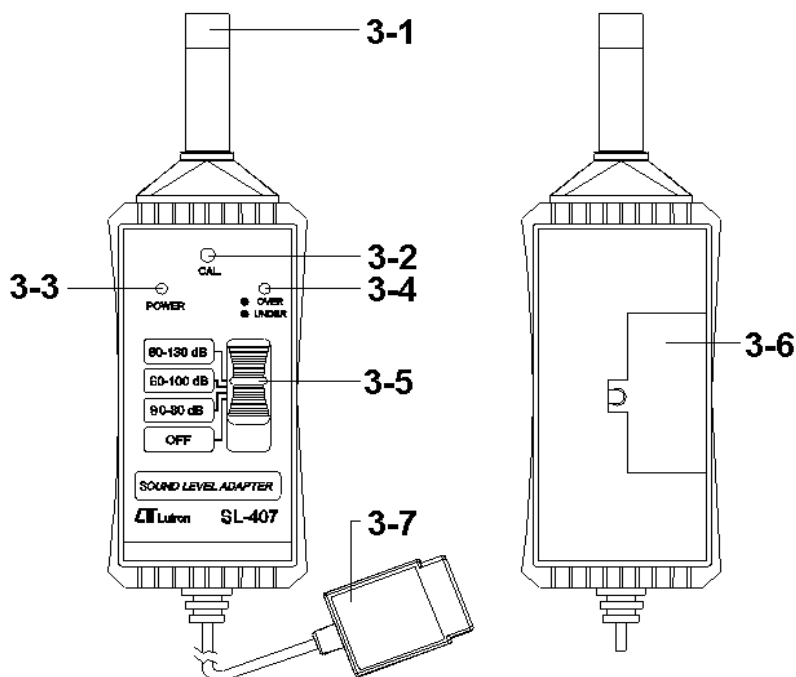

Fig. 1
- 1) Connect the " Output Plug " ( 3-7, Fig. 1 ) to the input terminals of ENVIRONMENT METER ( EM-9300SD )
When the " Over/Under range indicator " ( 3-4, Fig. 1 ) show the red color, it shows the over range, Slide the " Range switch " to other higher range for measuring.
When the " Over/Under range indicator " ( 3-4, Fig. 1 ) show the green color, it shows the under range, slide the " Range switch " to other lower range for measuring.
- 1) Power on, the " Power indicator " ( 3-3, Fig. 1 ) will be lit.
- 2) Open the " Battery Cover " ( 3-6, Fig 1 ), and remove the battery.
The sound level adapter is built in the internal " Calibration VR " ( 3-2, Fig. 1 ) on the front panel. Please according the following procedures to calibrate the instrument accurately, if it is necessary.
- 1) Prepare the optional " Sound Level Calibrator, Model: SC-941 or SC-942 ". Power on the Sound calibrator & plug calibrator output into the " Sound microphone " ( 3-1, Fig. 1 ) of the Sound Adapter.
- 2) Slide the " Range switch " ( 3-5, Fig. 1 ) to " 50 - 100 dB " position.
- 3) Carefully adjust the " Calibration VR " ( 3-2, Fig. 1 ) with " - " screw driver, until the display read within " 94.0  $\pm$  0.2 " dB.